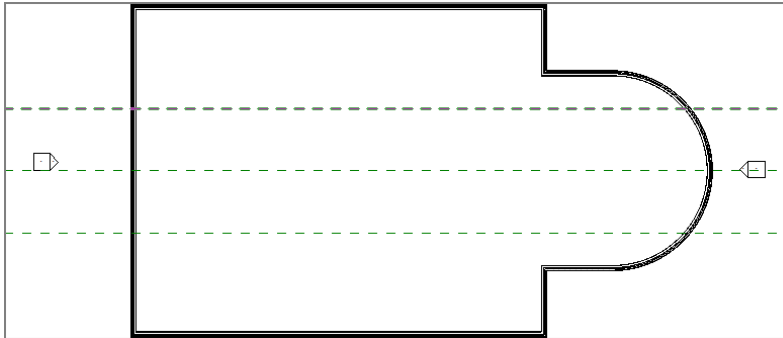

FIGURE 2.5: Reference planes are used here to aid in the placement of walls.
12. With the Ref Plane command still running, hover over the middle line again. This time, offset the alignment line down. Your plan should now look like Figure 2.5.